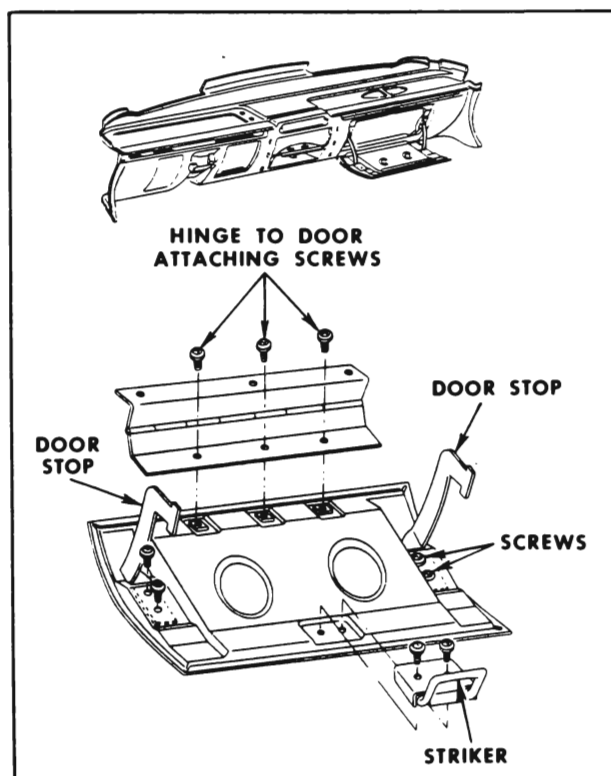

Figure 1-40—Instrument Panel Compartment Door Assembly
2. Remove attaching screws at door hinge and door stop from door inner panel and remove door. See Figure 1-40.
3. The compartment door lock striker may be adjusted by loosening attaching screws and moving striker to desired position (Figure 1-40).
1. Remove hinge stop attaching screws (Figure 1-40), disengage stop assembly from instrument panel door and remove stop.